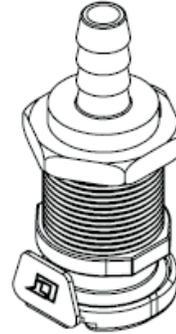
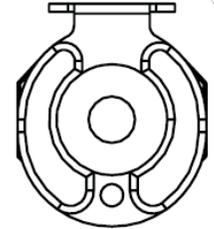

Fig. 83
Fig. 84
1. To connect, push the male quick-connect (Fig. 83) of the reprocessed tube set into the quick disconnect (Fig. 84) located on the ceiling of the Cabinet which corresponds to the appropriate hanger for a matching Endoscope.